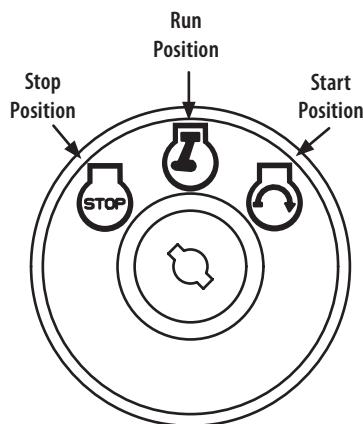

Figure 4
6. Turn the ignition key clockwise to the START ⚡ position (Figure 4). After the engine starts, release the key. It will return to the NORMAL MOWING ⚡ F position.
1. Wipe around dipstick cap and tube with a clean cloth to remove any debris (Figure 4).